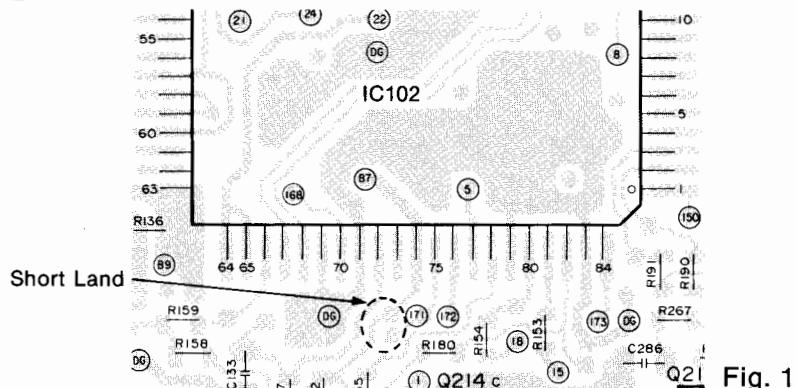

Fig. 1
2. Short pins  $\textcircled{74}$  and  $\textcircled{75}$  of IC102. (Fig. 1)